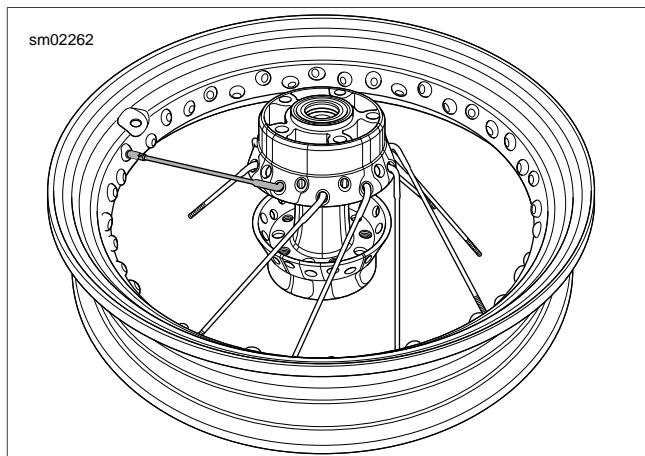

Figure 2-22. Brake Side Up: Start First Spoke of Bottom Row
- See Figure 2-22. Center rim over hub assembly with valve stem hole facing upward.